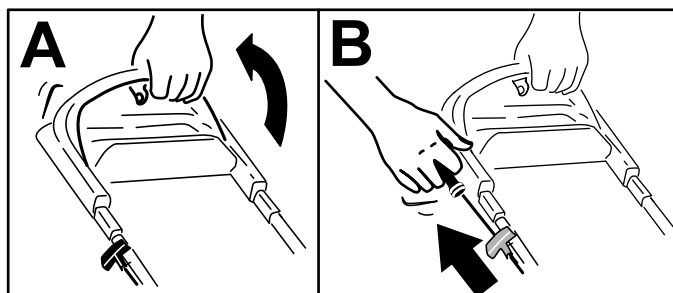

Figure 14
1. Hold the blade-control bar against the handle (A of Figure 14).
2. Pull the recoil-start handle (B of Figure 14).